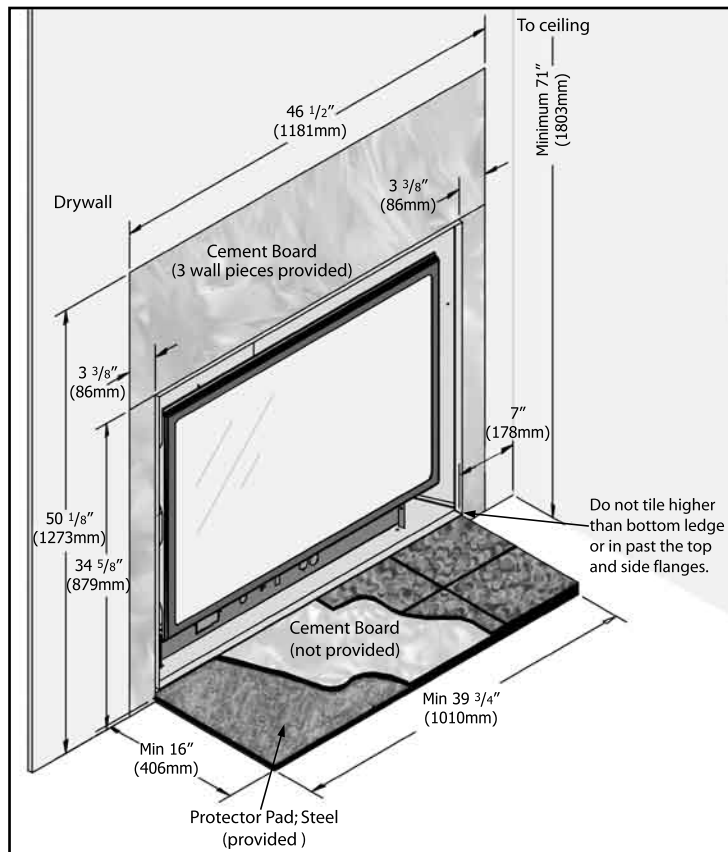

Figure 15. Floor Level Hearth Requirements With Dimensions Around Opening.
If the unit is raised 4" (102mm) or less it is mandatory to have a hearth installed with a protector pad (sheet metal) placed directly on the floor or hearth framing, with the cement board (see specs below) on top of it. Tile, or another non-combustible material forms the top layer of the hearth. A decorative trim may be added to the edge of the hearth. The trim can be combustible as long as the hearth extends at least **16" (406 mm)** in front of the fireplace and **1" (25 mm)** on either side of the fireplace opening (see Figure 15). To install the face, it is necessary for the bottom flange of the fireplace opening to overlap or be flush with the tile. If the total thickness of the protector pad, cement board, and finished tile is more than 1½" (38 mm) the fireplace must be raised to accommodate additional thickness.
**TILED FINISH:** Because of the amount of heat exuded by the fireplace, drywall cannot come directly up to the fireplace. Figure 15 shows the minimum dimensions for the cement board. Tile or other non-combustible materials cover the cement board, but do not overlap into the fireplace opening. The total depth of the cement board and the finishing materials should be a minimum of 1" (25 mm) to maximum of 1¾" (35 mm). The fireplace front will be installed over top of the finishing material.
**SMOOTH FINISH:** The fireplace will have to be recessed by ½" (12 mm) and two (2) layers of cement board must be used if the area around the fireplace will be finished flush with the rest of the wall.